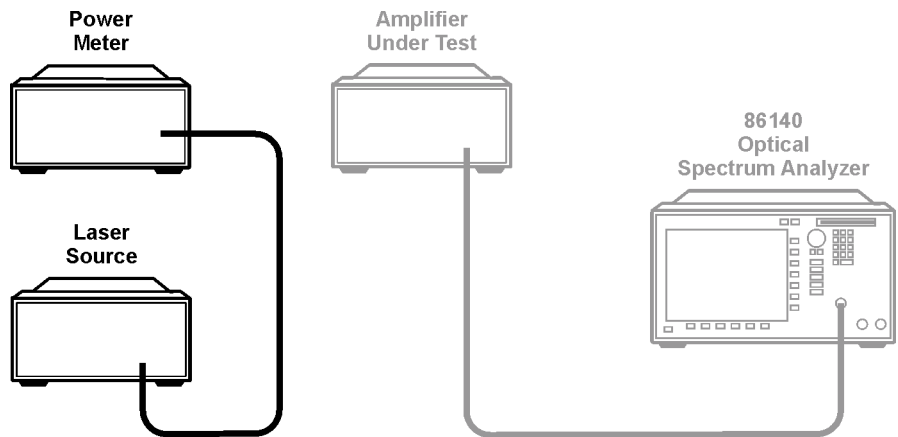

Figure 1-2. Power Meter Measurement
- 5 Connect the source to the power meter as in Figure 1-2. Set the power meter wavelength parameter to the source mean wavelength value.